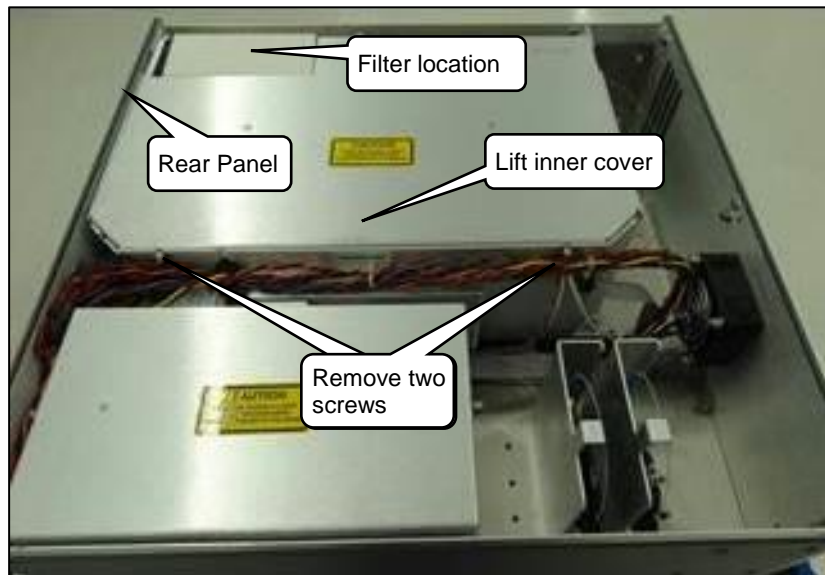

Figure 44: Opening G2910/G2920 Inner Cover
3. Loosen and remove the 2 screws on the inner long side of the bigger box (Figure 44), then lift and open the inner cover.